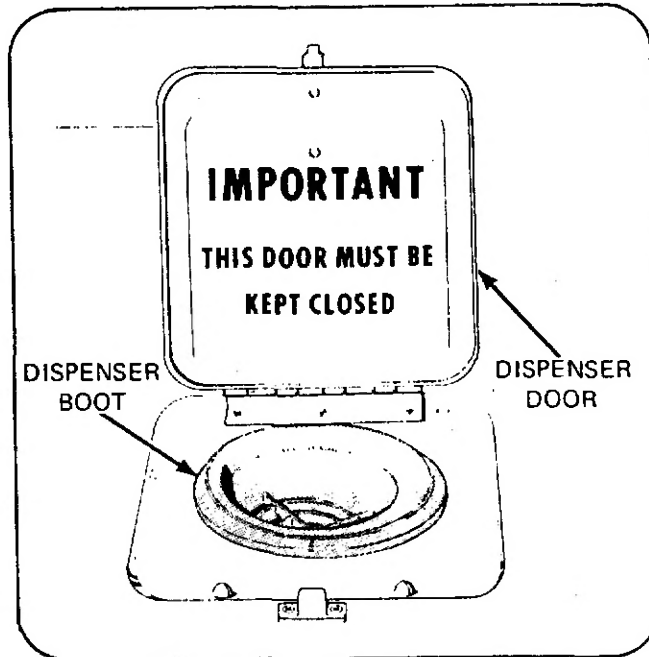

Figure 9
- Open dispenser door, *Figure 9*, and check ribs of dispenser boot for detergent build-up. To clean dispenser boot area, fill a small-necked glass jug with the hottest available tap water. Tip jug straight upside-down directly over the dispenser opening allowing the hot water to "glug" out onto the dispenser boot dissolving and washing away crusted detergent.